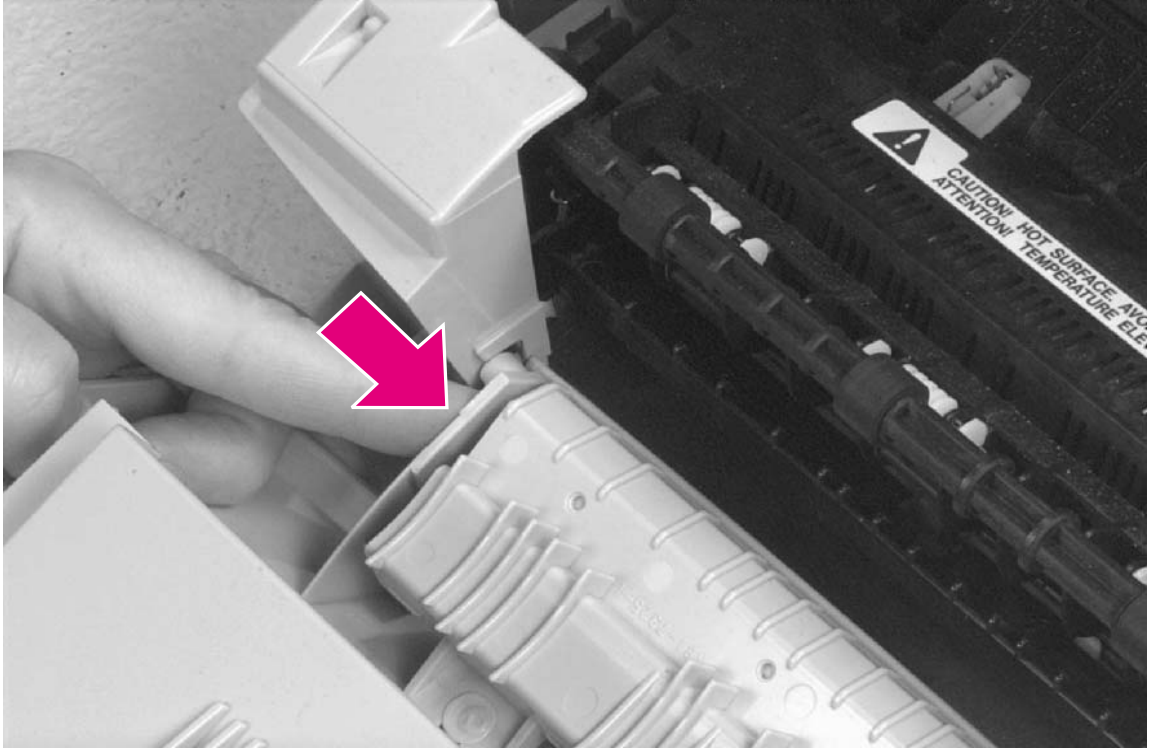

Figure 6-4 EP Door Assembly removal
- 4 There is a flex point along the door hinge. Firmly press the left tab inward to release it (Figure 6-4). The right tab will fall out easily.